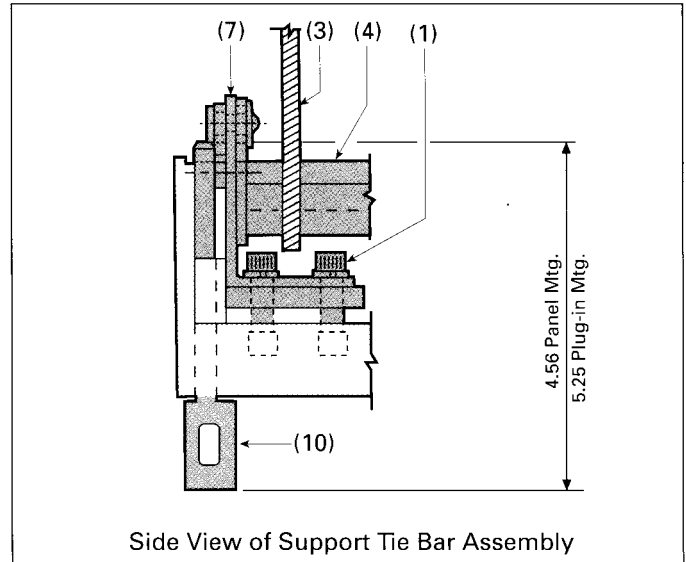

Figure 5
- G. With 9" long tie-bar wrench supplied (see Item 3 in Fig. 5) positioned over tie-bar connector (Item 4) on left pole rotate tie bar in direction of arrow and drop safety wood block (Item 5) with 1 inch dimension between tie-bar connector (Item 4) and trip unit (Item 6) on right pole so Item 6 comes to rest on the two socket head cap screws as shown in Fig. 5. Remove wrench.
- H. Assemble support-tie bar assembly (see Item 7 in Fig. 5) from top and insert plunger through rectangular opening in base from bottom of base. Tie bar member (Item 8), which is a part of Item 7 must engage tie-bar connector (Item 4). Plunger locator pin (Item 9) of link assembly (also a part of Item 7) must engage hole in plunger (Item 10). Tighten two 5/16-18 socket head cap screws (Item 1) to 140 in-lbs.